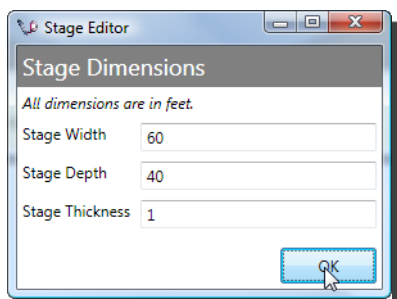

Figure 183
2. Edit the dimensions of the stage to match your physical stage and click **OK** (Figure 183). *All Stage Dimensions are in feet.*